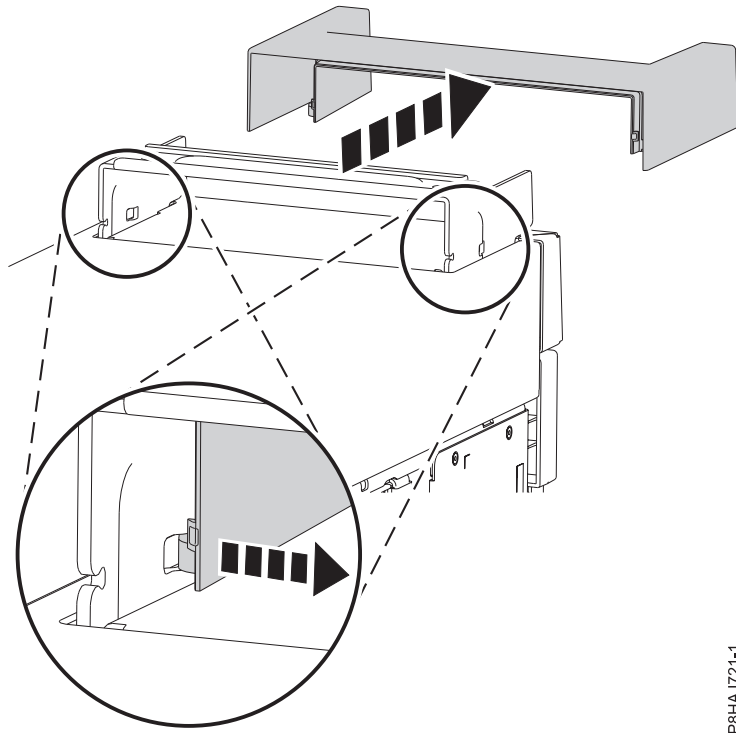

Figure 17. Removing the handle cover from an 8286-41A stand-alone system
3. Remove the handle cover by sliding it toward the front of the system then lifting upwards. See Figure 17 on page 35.